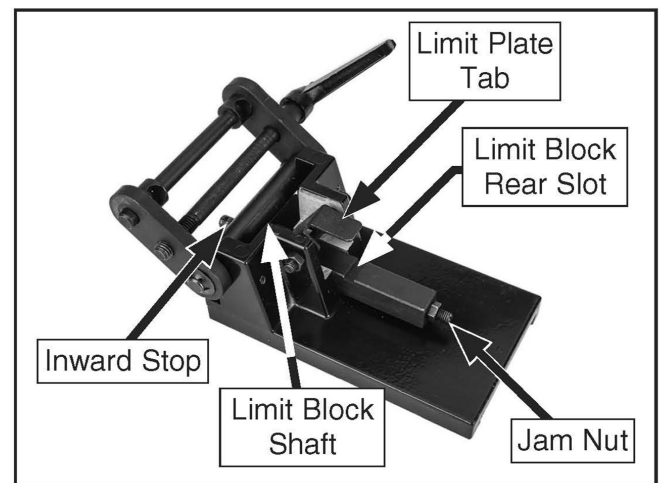

Figure 28. Fence stop parts identification.
Note: Fence should stop at 90° when it contacts limit block shaft (see **Figure 28**).
4. Bring fence to 90°, then loosen jam nut located on rear of limit block shaft (see **Figure 28**)
Note: When fence tilts towards table, it will stop when it contacts inward stop (see **Figure 28**).